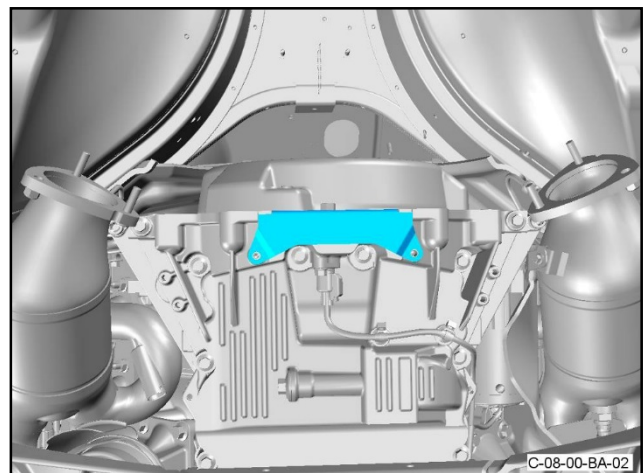

Figure 2
3. Remove the cover plate (refer to Figure 2).